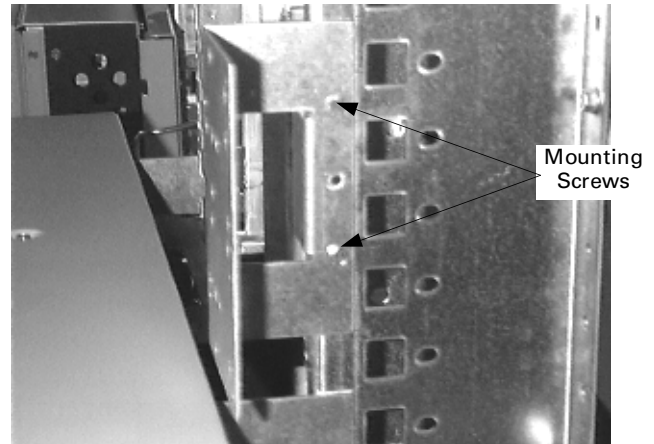

Figure 2. Installing the mounting bracket in the panelboard.
- 2. Mount the removable mounting bracket.** Install the mounting bracket (removed from the switch in step 1) on the power panelboard with the two self-tapping screws provided, as shown in Figure 2. Tighten the screws to 27–32 in-lb.